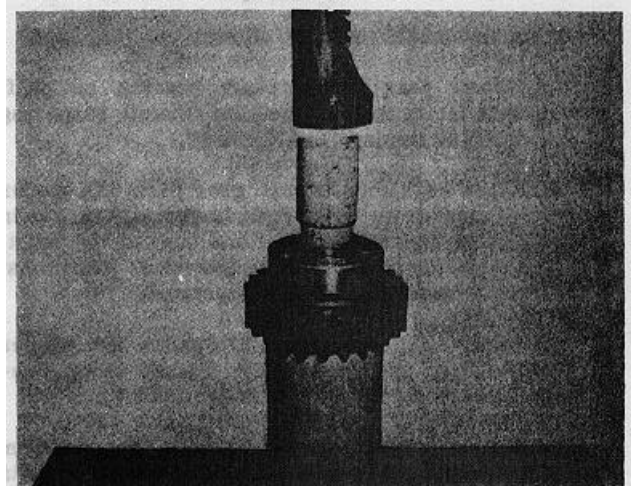

FIGURE 11. Removing Countershaft Rear Bearing
(18) If replacement of countershaft rear bearing is required, remove snap ring (item 37) from rear of shaft and press off bearing. (See Figure 11.)